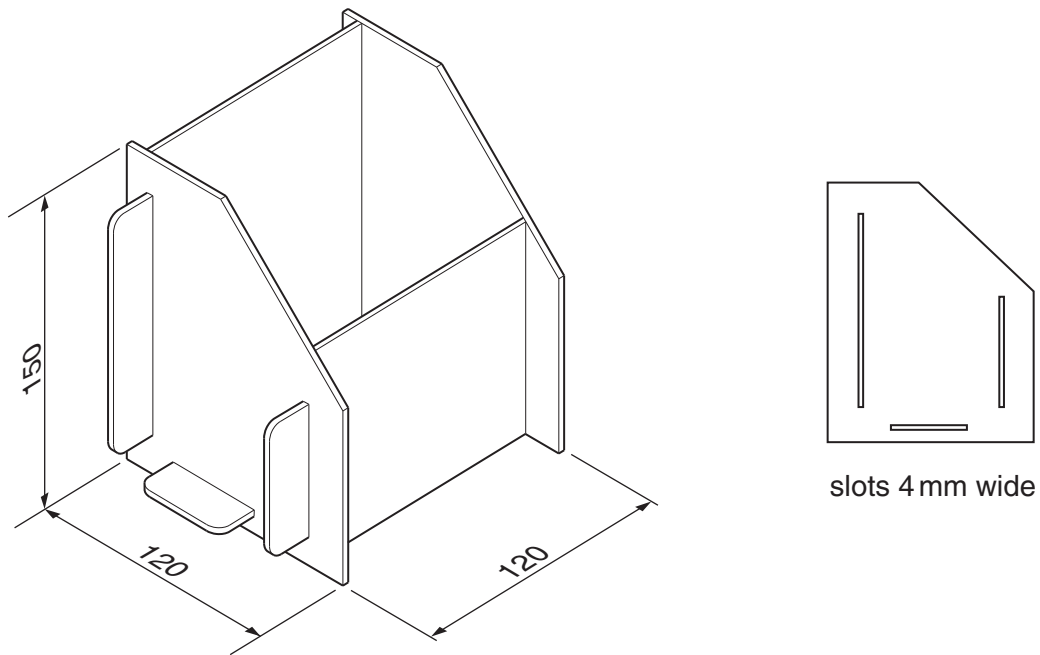

Fig. 3
- 2 Fig. 3 shows details of a desk tidy made from 3 mm thick MDF. The desk tidy is manufactured as flat-pack for self-assembly.
(c) Describe **three** main stages in cutting out **one** of the slots shown in Fig. 3.